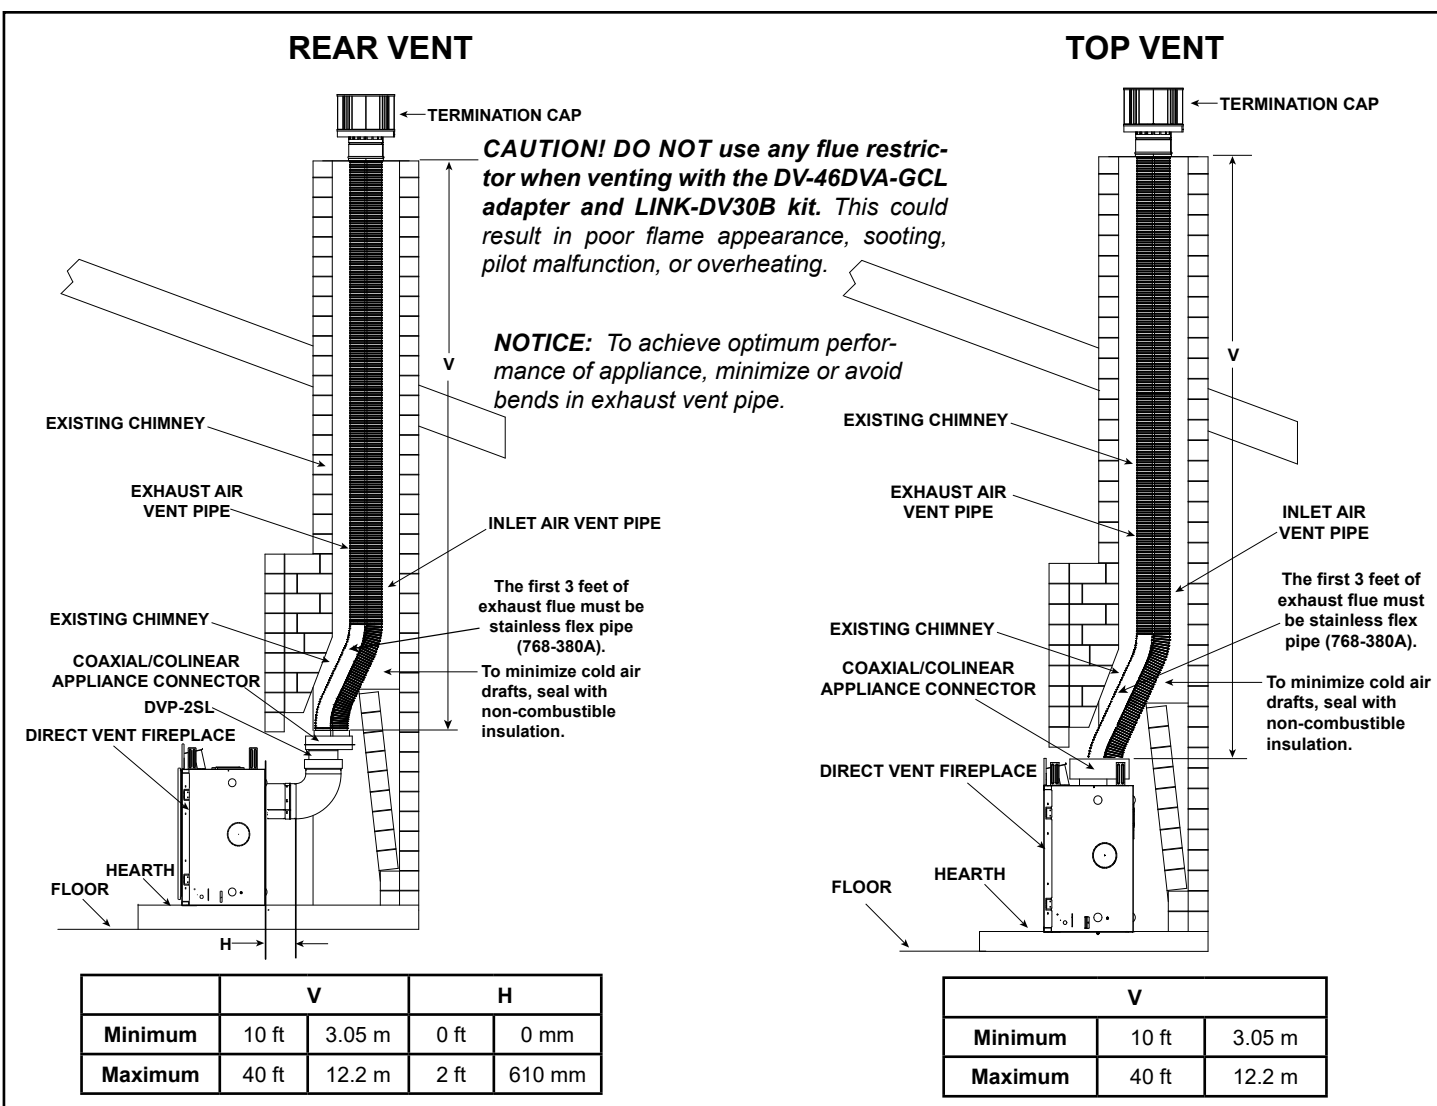

Figure 4.29
- Remove top seal cap and insulation if equipped. See Section 6, Appliance Preparation. Attach the DV-46DVA-GCL adapter to the appliance starting collar with 3-1/2 in. self-tapping screws. See Figure 4.29.
- Remove the rear seal cap and insulation if equipped. Connect the DVP-2SL adapter to the vertically positioned elbow. Follow installation instructions included with DVP-2SL kit. Secure DV-46DVA-GCL adapter to DVP-2SL with 3-1/2 in. self-tapping screws. See Figure 4.29